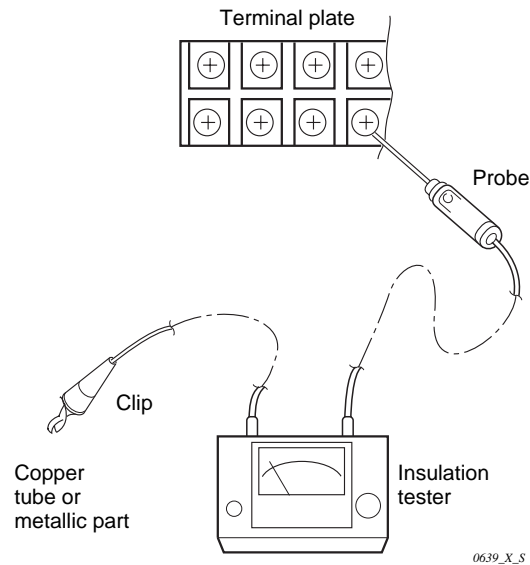
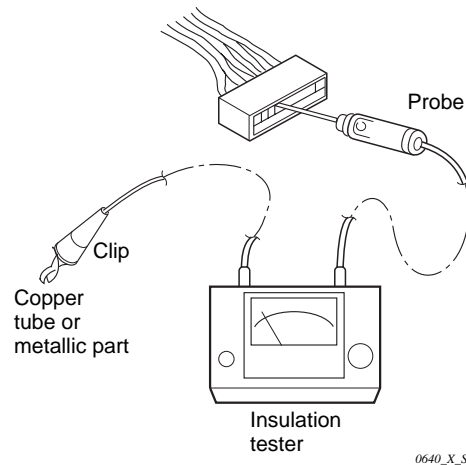

Fig. 22
Fig. 23
Clamp an aluminum plate fin or copper tube with the lead clip of the insulation resistance tester and measure the resistance by placing a probe on the terminal plate (Fig. 22)
③ Outdoor Unit
Measure the resistance by placing a probe on the terminal plate in the same manner as explained above ②. (Fig. 22)
④ Measurement of Insulation Resistance for Electrical parts
- Disconnect the connector of the desired electric part from terminal plate, P.C.B. Ass'y, etc. (Fig. 23)